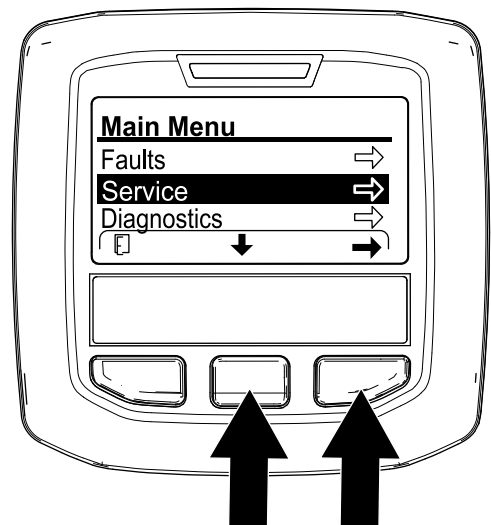

Figure 177
4. In the InfoCenter, navigate to the MAIN MENU (Figure 177).